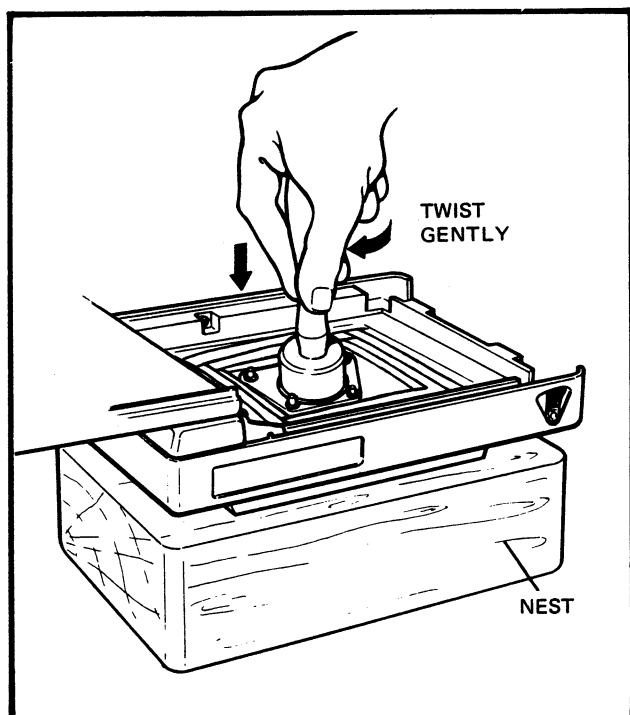

FIG. 5.19 REMOVING REAR LENS - PLASTIC SHUTTER HOUSING
2. Insert tool #CR1000 over the lens retainer and twist gently until the retainer is free (Figure 5-19).